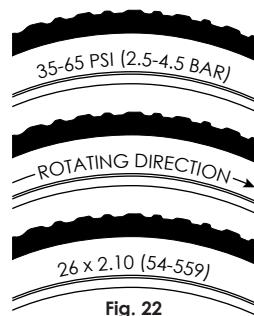

Fig. 22
1. Tires Bicycle tires are available in many designs and specifications, ranging from general-purpose designs to tires designed to perform best under very specific weather or terrain conditions. If, once you've gained experience with your new bike, you feel that a different tire might better suit your riding needs, your dealer can help you select the most appropriate design. The size, pressure rating, and on some high-performance tires the specific recommended use, are marked on the sidewall of the tire (see fig. 22). The part of this information which is most important to you is Tire Pressure.